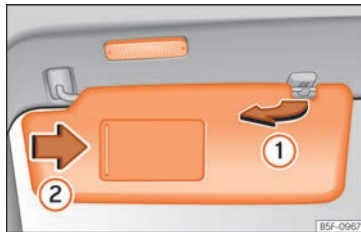

Fig. 116 Sun visor
- The sun visor can be pulled out of its mounting and turned towards the door » **Fig. 116 ①**.